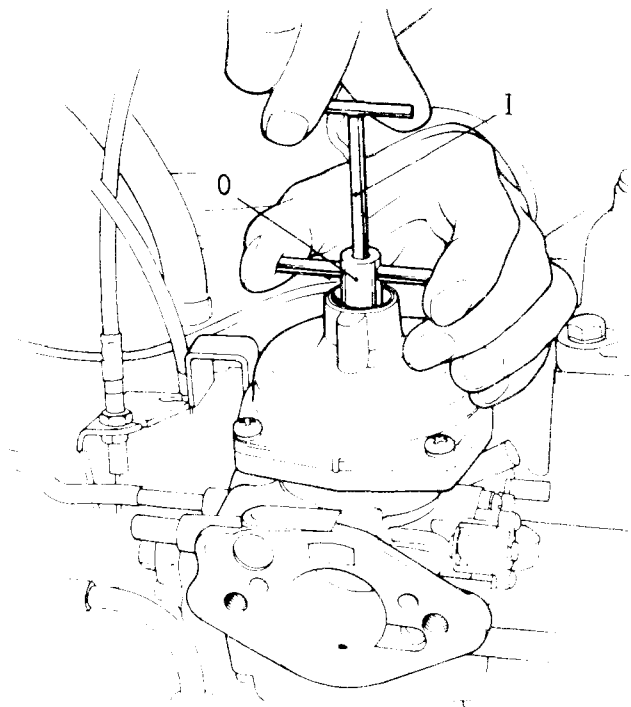

Fig. 29 Adjusting mixture
Should the mixture require adjustment, remove the carburetter damper and carefully insert the special tool S 353 into the hollow piston rod (Fig. 29) so that the inner part of the tool (1) engages in the female hexagon in the needle adjusting screw.